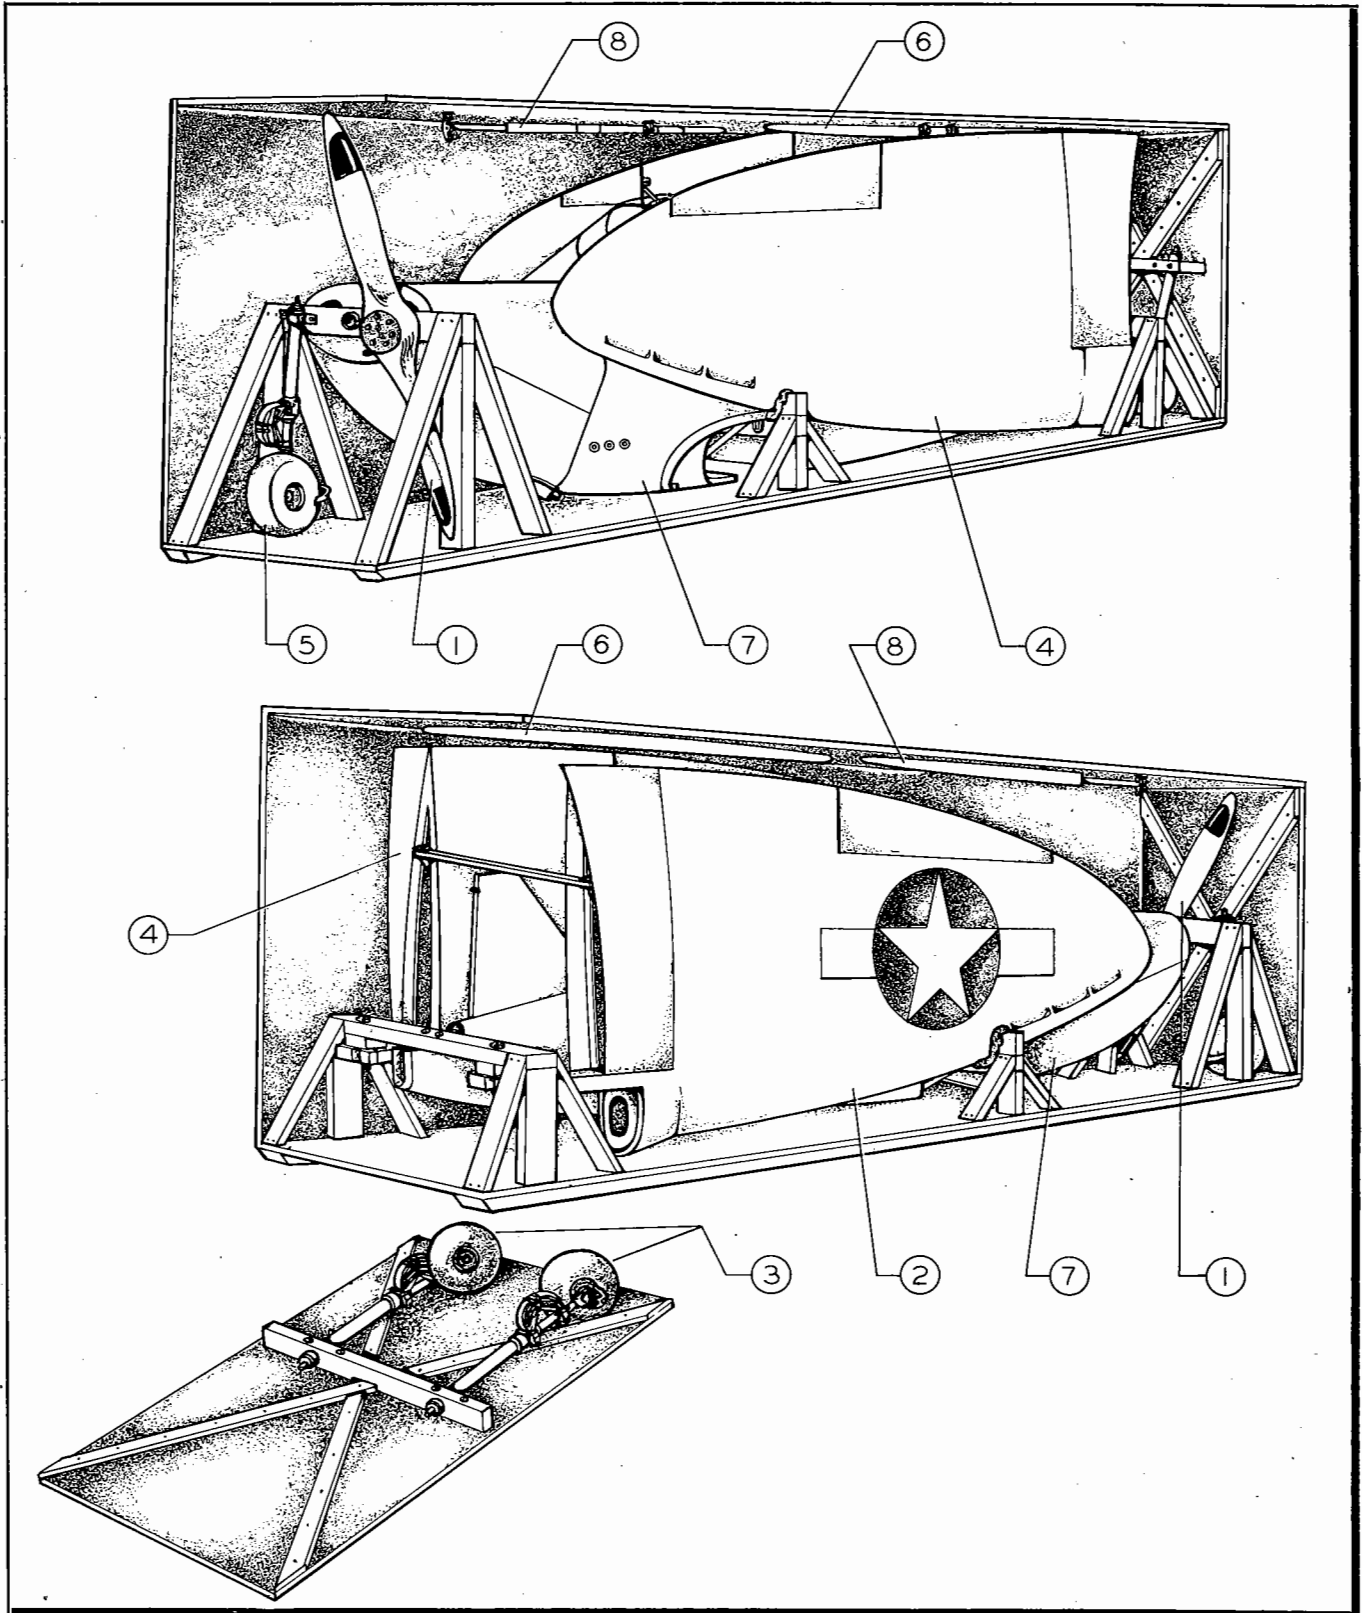

Figure 8—Crating Diagram
- b. NUMBER.—One compact crate has been designed to contain all items of one airplane. (See figure 8.)
Key to Figure 8